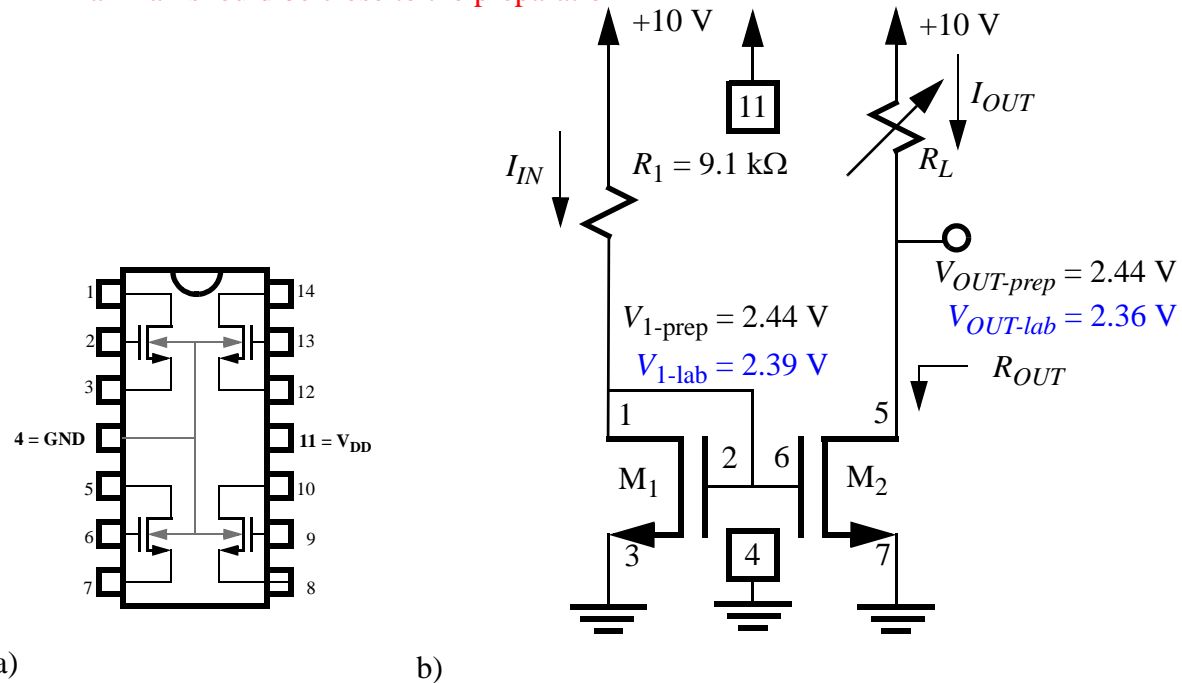

Figure 4) Lab version of Fig. 1, a) Pin diagram for the ALD1106. b) A simple current mirror.
1. Verify that your circuit analysis and the pre-wiring done in part 1 of the preparation are correct by applying 10 V and ground to your pre-wired circuit and measuring the node voltages. Record the measured voltages on Fig. 4 (lab version of Fig. 1).